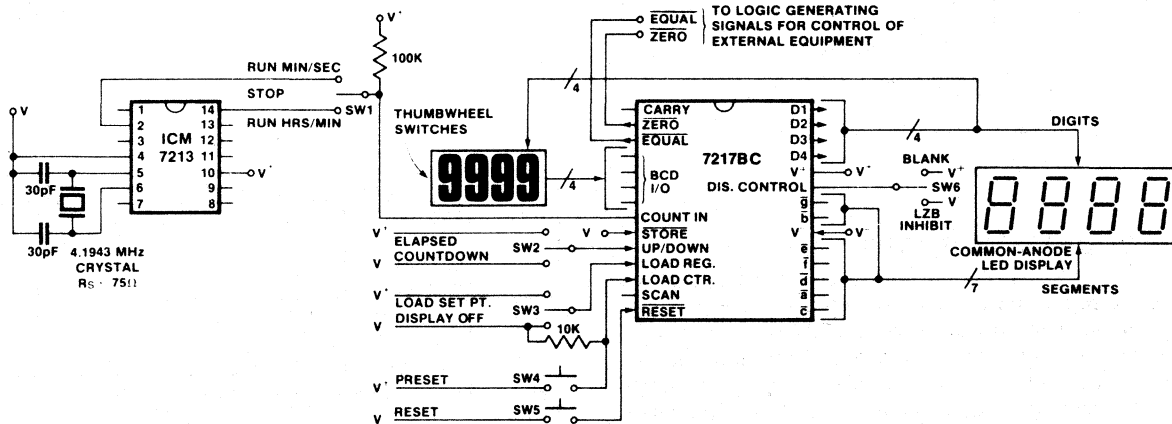

Figure 8: Precision Timer
To force the device to display zeroes after a fixed decimal point, use a bipolar transistor and base resistor in a configuration like that of Fig. 8 with the resistor connected to the digit output driving the D.P. for left hand D.P. displays, and to the next least significant digit output for right hand D.P. display. For common cathode devices use a PNP and NPN transistor as shown below:
3. PRECISION ELAPSED TIME/COUNTDOWN TIMER (Figure 8)